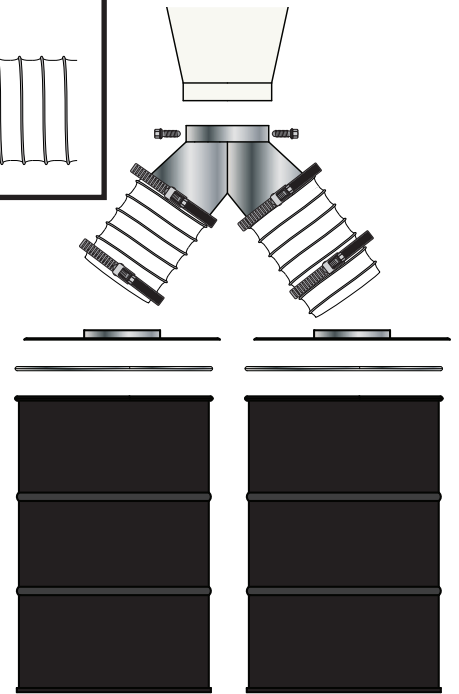

FIG. 18b
Attach the Hose to each Leg of the Pants Wye and secure them in place with the Hose Clamps (V). Position the Drums (Y) under the Cone (C) and repeat the process to attach the opposite end of the Hose (J) onto each Lid's Collared Inlet (X) [FIG. 18b].